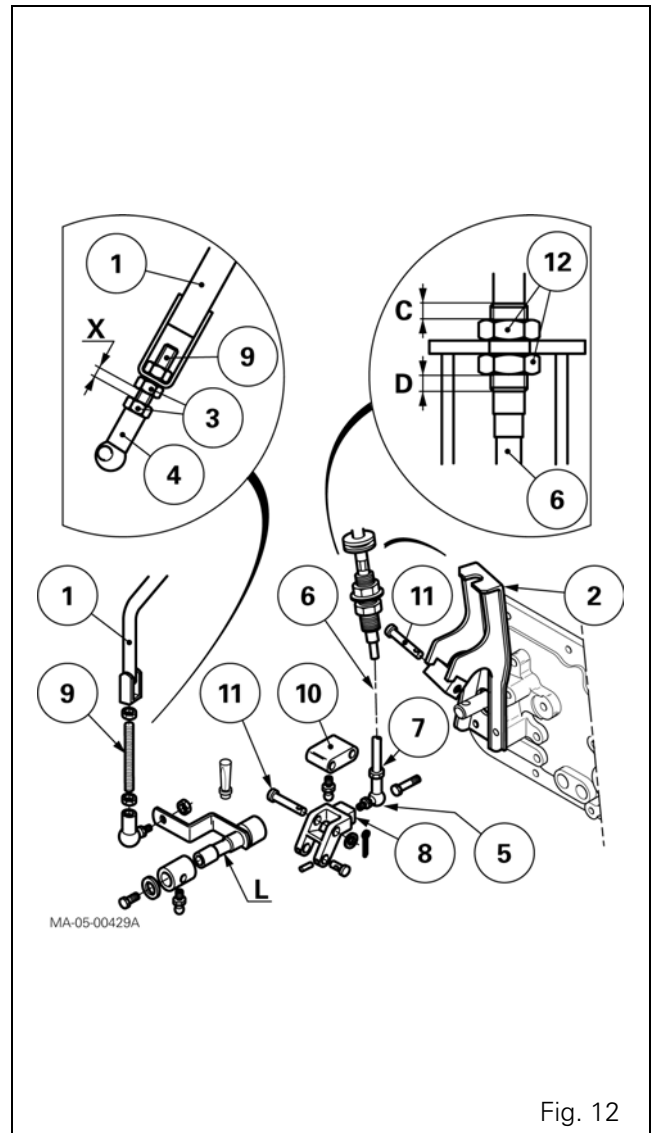

Fig. 12
Preparation (Fig. 12)
Assembly (Fig. 12)
71. Tighten and lock the other end of the ball joint (5) onto the cam (8).
72. On the previously fitted bracket (2) and lever L, position the cam (8) and its extension piece (10). Fit the pins (11), and lock them in place with new pins.
73. Fit the ball joint (4) on the lever L. Fit the washer and tighten the locknut.
Adjusting the link control rod (1) (Fig. 12)
74. Turn the threaded rod (9) and ball joint (4) to obtain a dimension X of $17 \pm 1 \text{ mm}$ between the two nuts (3) when they are tightened.
Adjusting the cable (6) (Fig. 12)
75. Adjust the end-point to balance (as far as possible) dimensions "C" and "D". Tighten nuts (12) without altering the adjustment.
The lever is positioned incorrectly. Readjust the link control rod (1) (Fig. 12) on the selector cover side according to the following instructions:
- If the problem concerns the 1st or 3rd gears (Fig. 13), reduce dimension X (Fig. 12).
- If the problem concerns the 2nd or 4th gears (Fig. 13), increase dimension X (Fig. 12).
- If the problem concerns lateral movement of the lever between the 1-2 and 3-4 gear paths (Neutral position) (Fig. 14), adjust the cable end-point(6) (dimensions C and D) (Fig. 12). Tighten nuts (12).